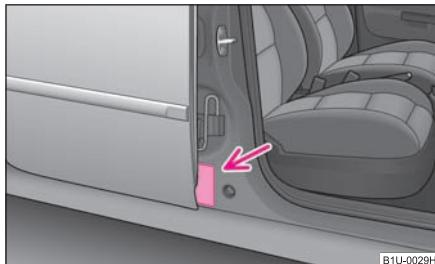

Fig. 125 Sticker on the centre column of the body on the front passenger side.
- This is also clearly stated on the sticker which is located on the centre column of the body on the front passenger side ⇒ fig. 125. The sticker is visible upon opening the front passenger door. For some countries, the sticker is also affixed to the sun visor of the front passenger.